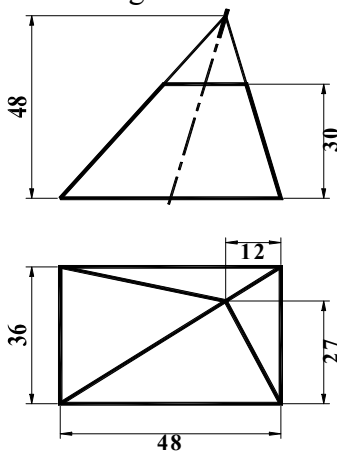

Figure T9.4
4. Two views of an oblique, truncated rectangular pyramid are shown in Figure T9.4. Develop its lateral surface.